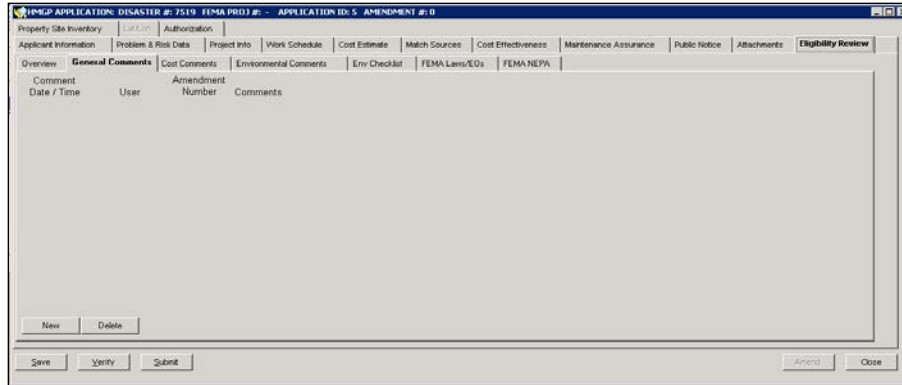

Figure 6-68: Mitigation > Projects > Application Development > Eligibility Review > General Comments Sub-tab
4. Click the **General Comments** sub-tab (Figure 6-68). To enter General Comments, complete Steps 3a - 3c.